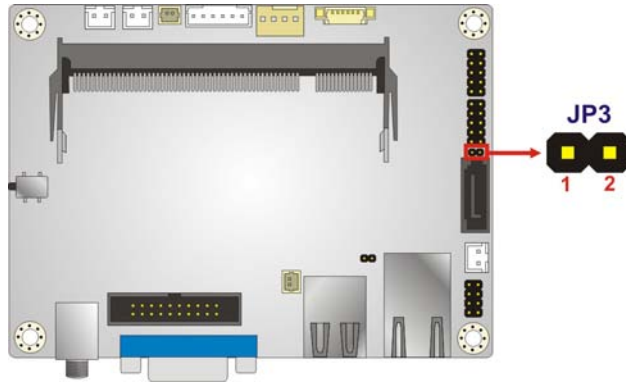

Figure 3-11: EC FW Connector Location
- CN Location: See **Figure 3-11**